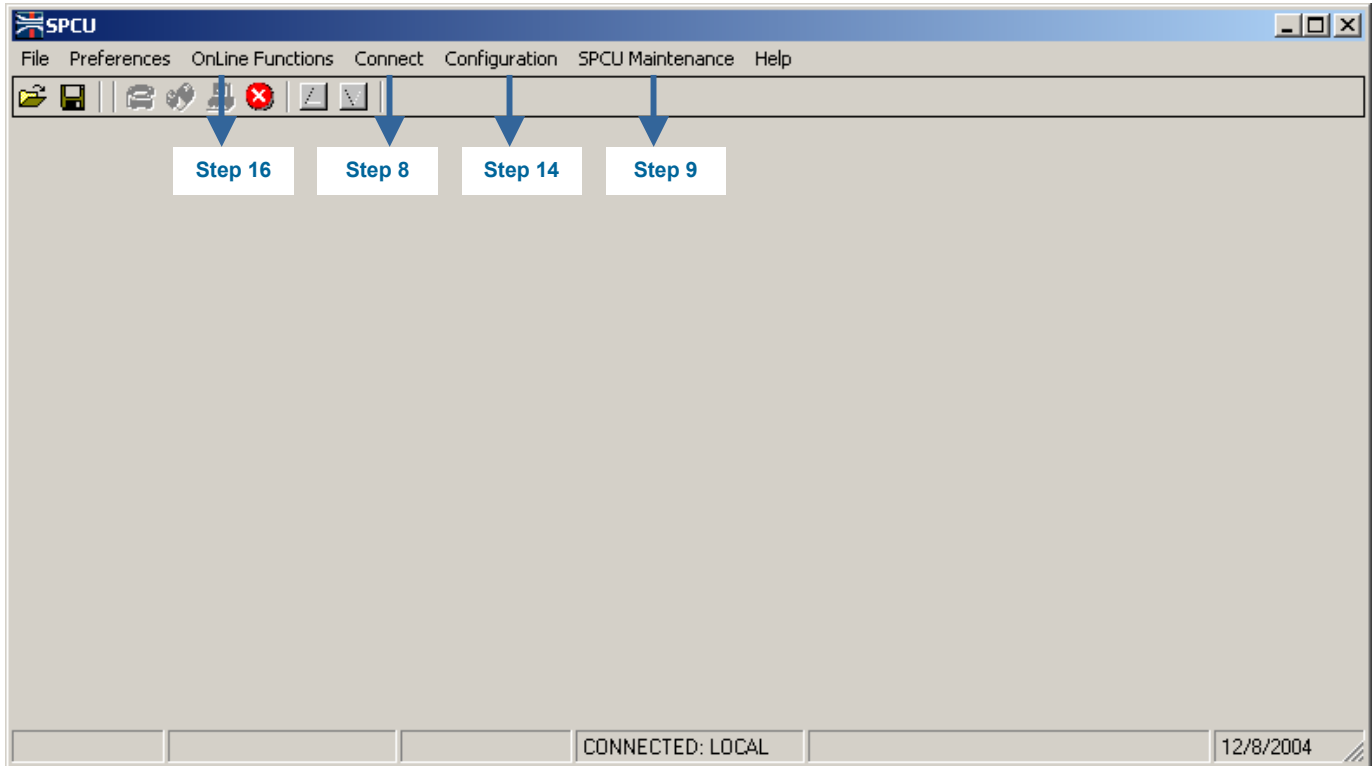
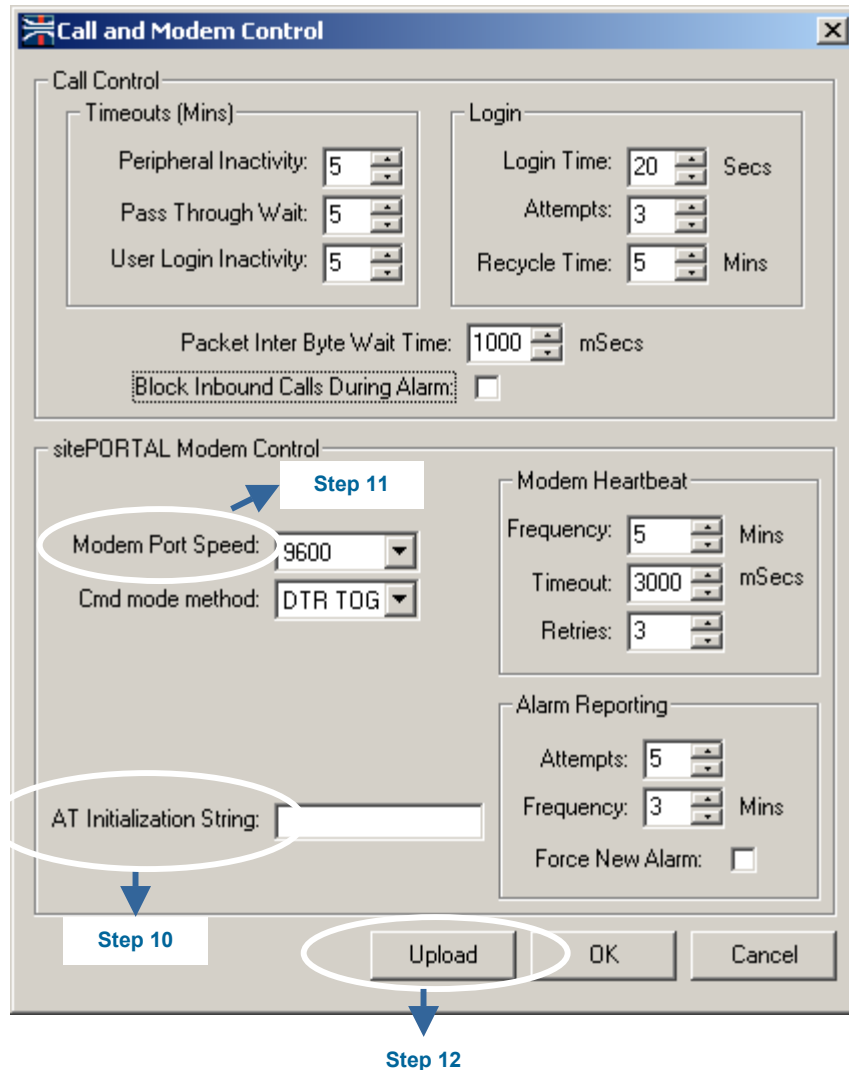

Figure 1 – SPCU Main Menu
Figure 2 – Call and Modem Control Panel
8. To connect locally to the sitePORTAL Lite, from the SPCU menu click on “Connect” and select the “Local Connection” option (Figure 1).
9. After SPCU has connected to the sitePORTAL Lite unit, from the SPCU interface (Figure 1) click on “SPCU Maintenance” and select “Call & Modem Control”. The screen should look as indicated by Figure 2 – Call and Modem Control Panel.
- At this stage the SPCU interface (Figure 1) should be displayed. Next, click on “Configuration” and select “Peripherals”.
- At this stage the SPCU interface (Figure 1) should be displayed. To check the status of the modem controller, click on “Online Functions” and select “View” then “Current Status”.
19. At this stage the SPCU Main Menu (Figure 1) should be displayed. To terminate this local connection of the laptop to sPL, click on “Connect” and select “Disconnect”. Next, remove the RS-232 cable from sitePORTAL Lite serial port 1.